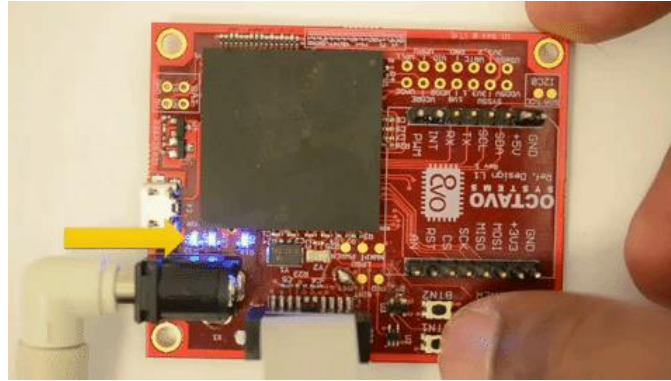

Figure 78 Demo App 1 in action
- Verify the functionality of Demo Application 1 by pressing the user buttons BTN1 and BTN2 and observing the brightness of user LEDs D2 and D3 as shown in Figure 78.